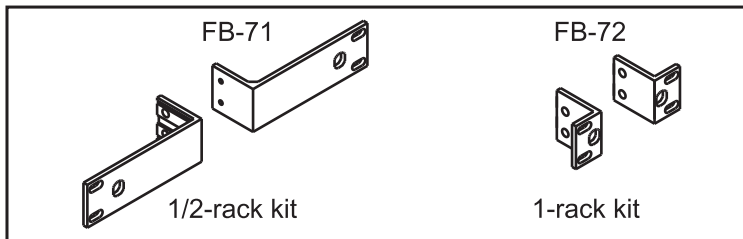

Fig. 6
3. Receiver Rack-Mount Kits. Fig. 6.